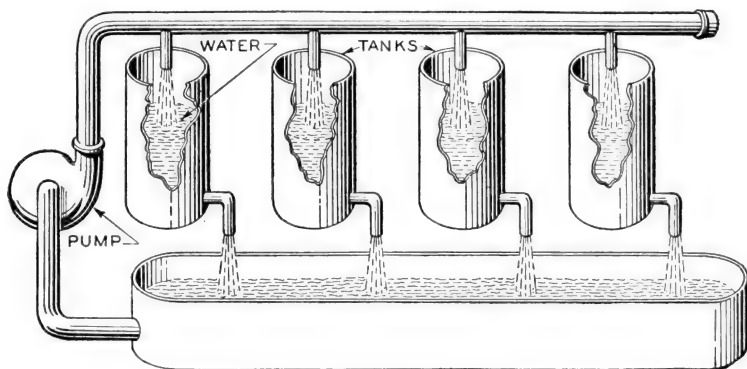

Fig. 9. Four Tanks in Parallel
**Parallel Connection.** In Fig. 9, the water is at the same height in each of the tanks, therefore the pressure from each is the same, and the pressure from one tank does not add to that of another. However there is four times the amount of water flowing from the group as from one tank.